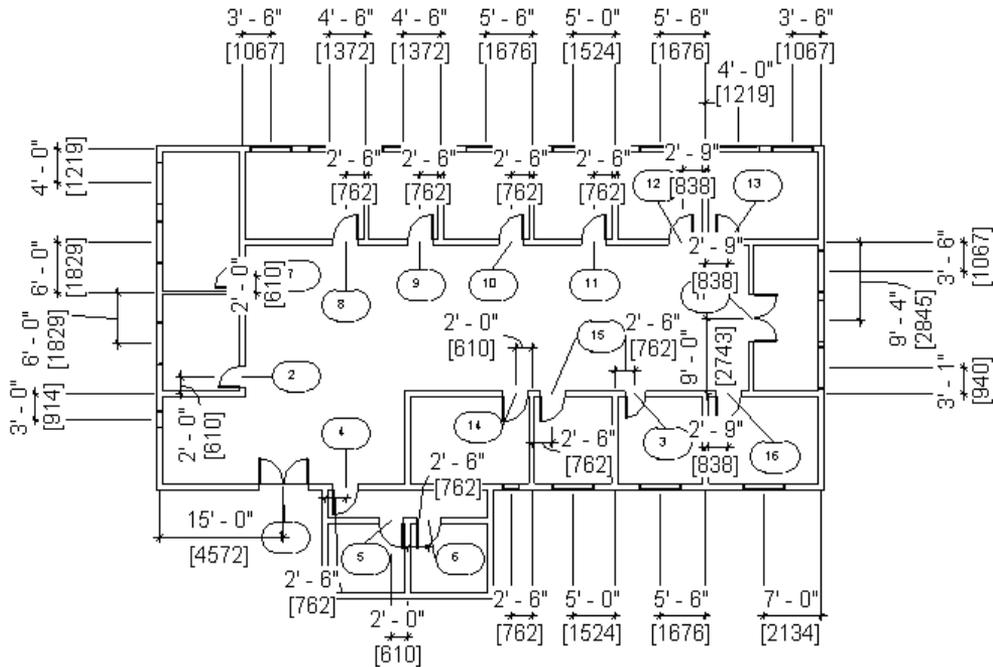

Figure 3-77 Sketch for adding doors and windows to the Office Building project
In this tutorial, you will add doors and windows and also add a floor and a ceiling to the *c03\_Building-EnvelopeI\_tut1.rvt* project file for Imperial or *M\_c03\_Building-EnvelopeI\_tut1.rvt* project file for Metric created in Tutorial 1 of Chapter 3. Refer to Figure 3-77 for adding these elements. The dimensions and the text have been given for reference and are not to be added. The project file name and parameters to be used are given next.
- e. Place the windows, as shown in Figure 3-77.
14. Add the other types of door in other areas at a specified distance from the internal wall, refer to Figure 3-77.
6. Click on the upper temporary dimension and enter **3'0"** for Imperial or **900 mm** for Metric, as shown in Figure 3-83. Press ENTER; the window is moved to the specified location. Similarly, add other windows of the same type near the internal wall of the I.T. Server room ( mentioned in Tutorial 1) by invoking the **Window** tool from the **Build** panel, refer to Figure 3-77.